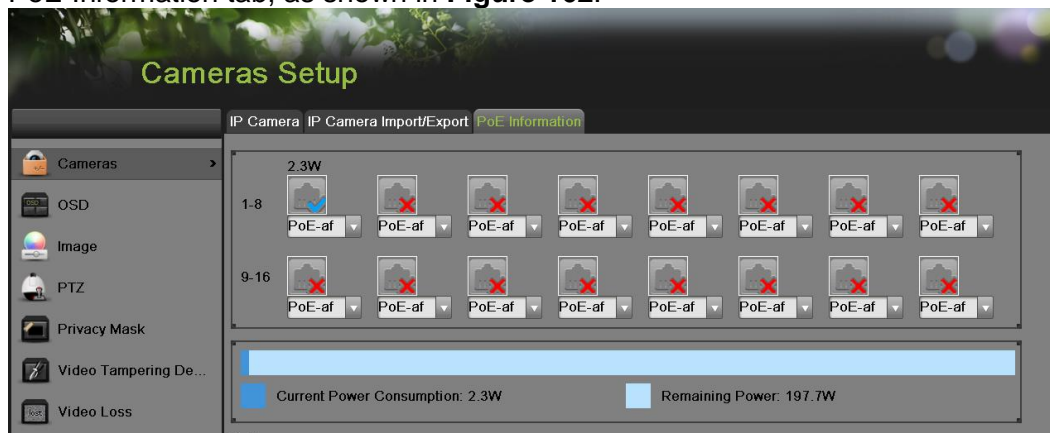

Figure 162 PoE Information interface
1. Enter the Cameras menu by going to Menu > Cameras Setup > Cameras. Select the PoE Information tab, as shown in **Figure 162**.